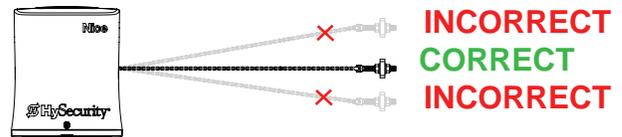
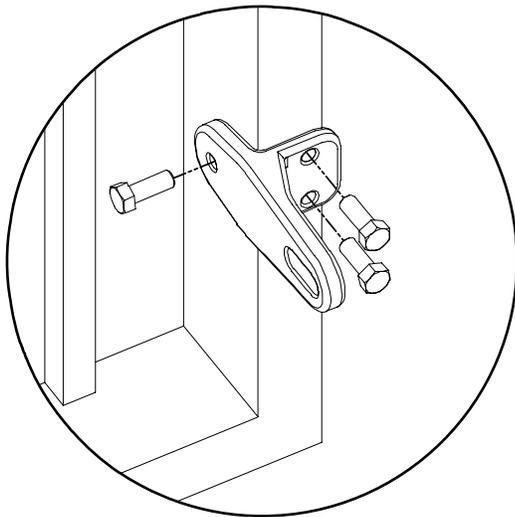
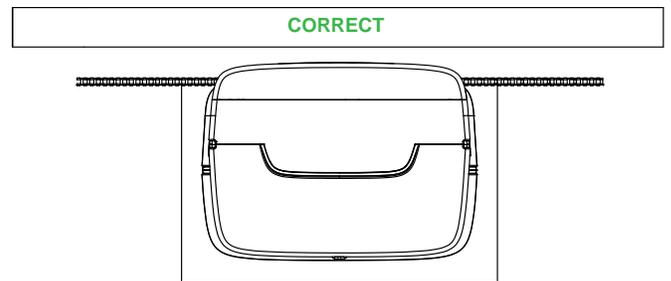
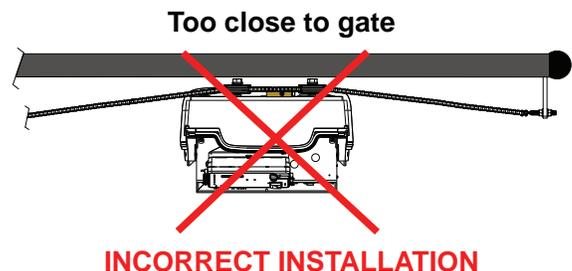

Figure 9. Correct Bracket Height
Figure 8. Attach Gate Bracket
Figure 12. Correct Distance to Gate
Figure 13. Incorrect Distance to Gate
6. Alternatively, weld the gate brackets in place (Figure 8 and Figure 9).
12. Chain must be parallel to ground and gate (Figure 9, Figure 12, Figure 13).